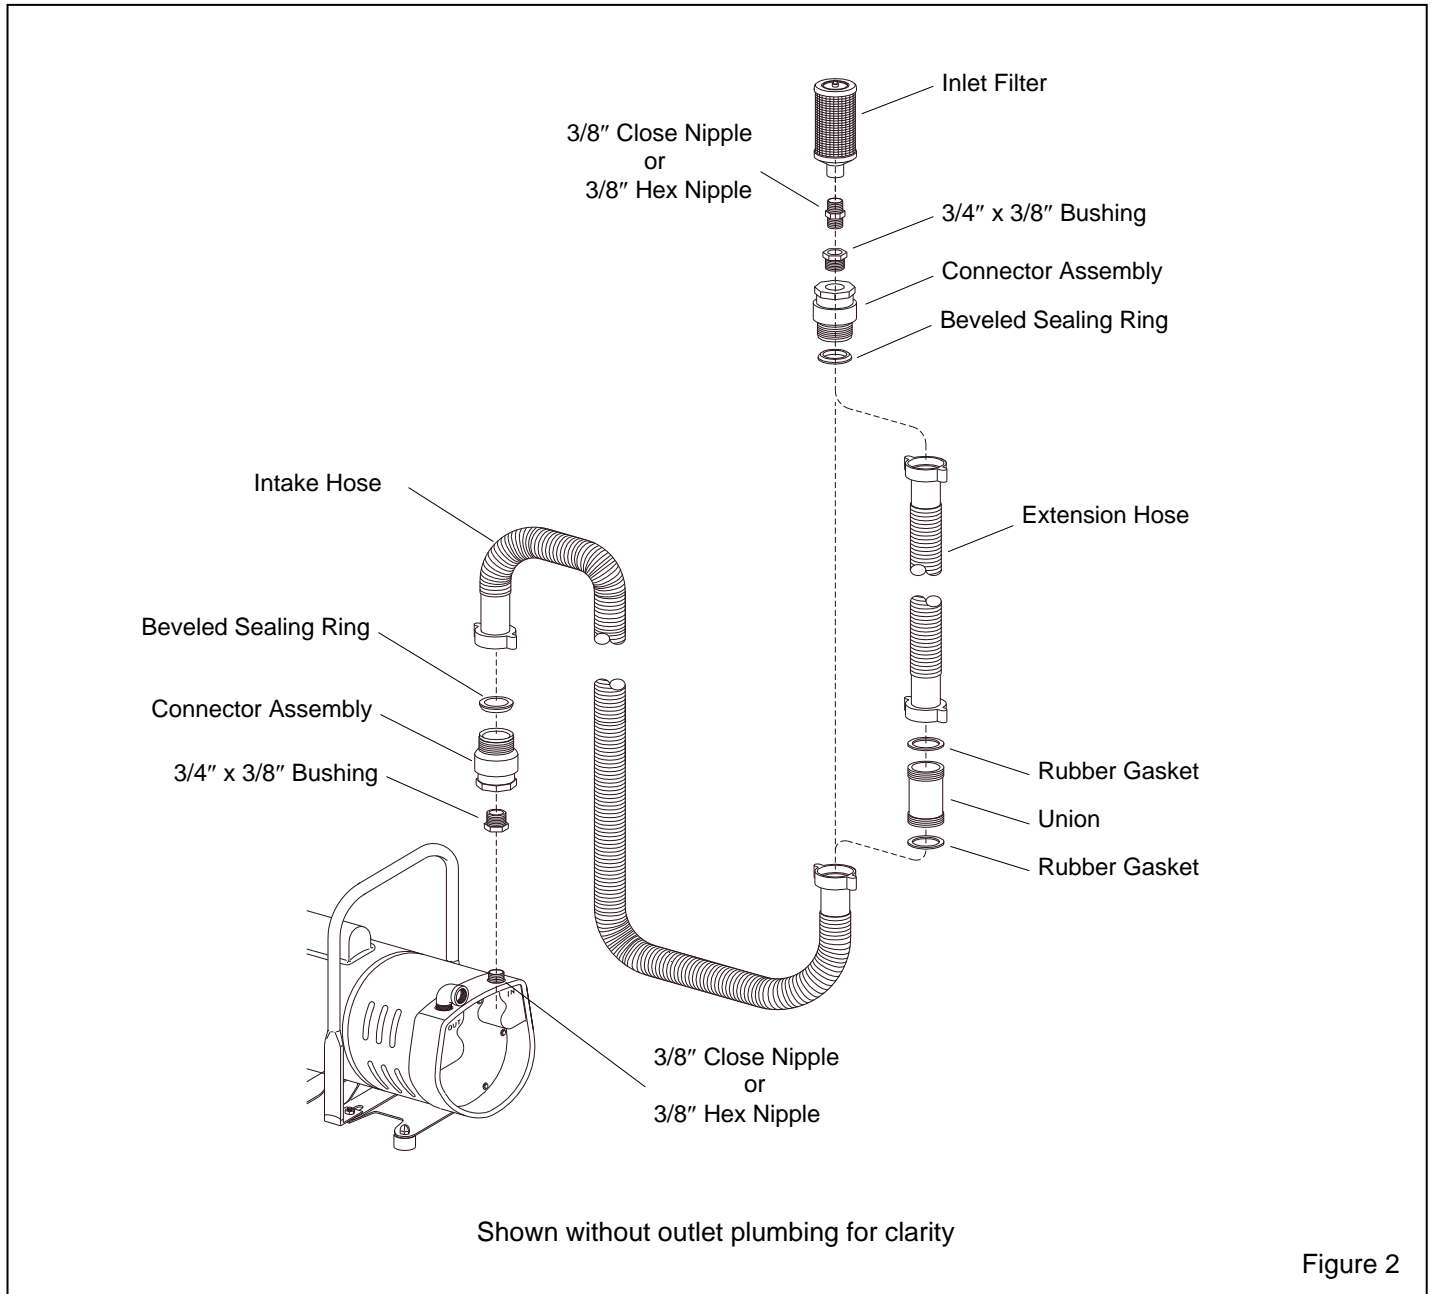

Figure 2
3.0 CONNECTING INTAKE HOSE AND HOSE EXTENSION, Ref. Figure 2